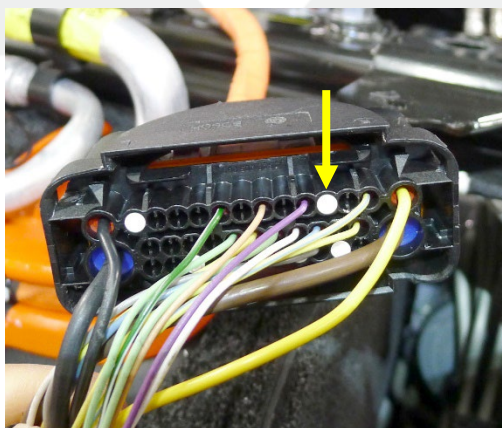

Figure 10
11. Use a pick to remove the plug from receptacle 28 of connector X151 (Figure 10).